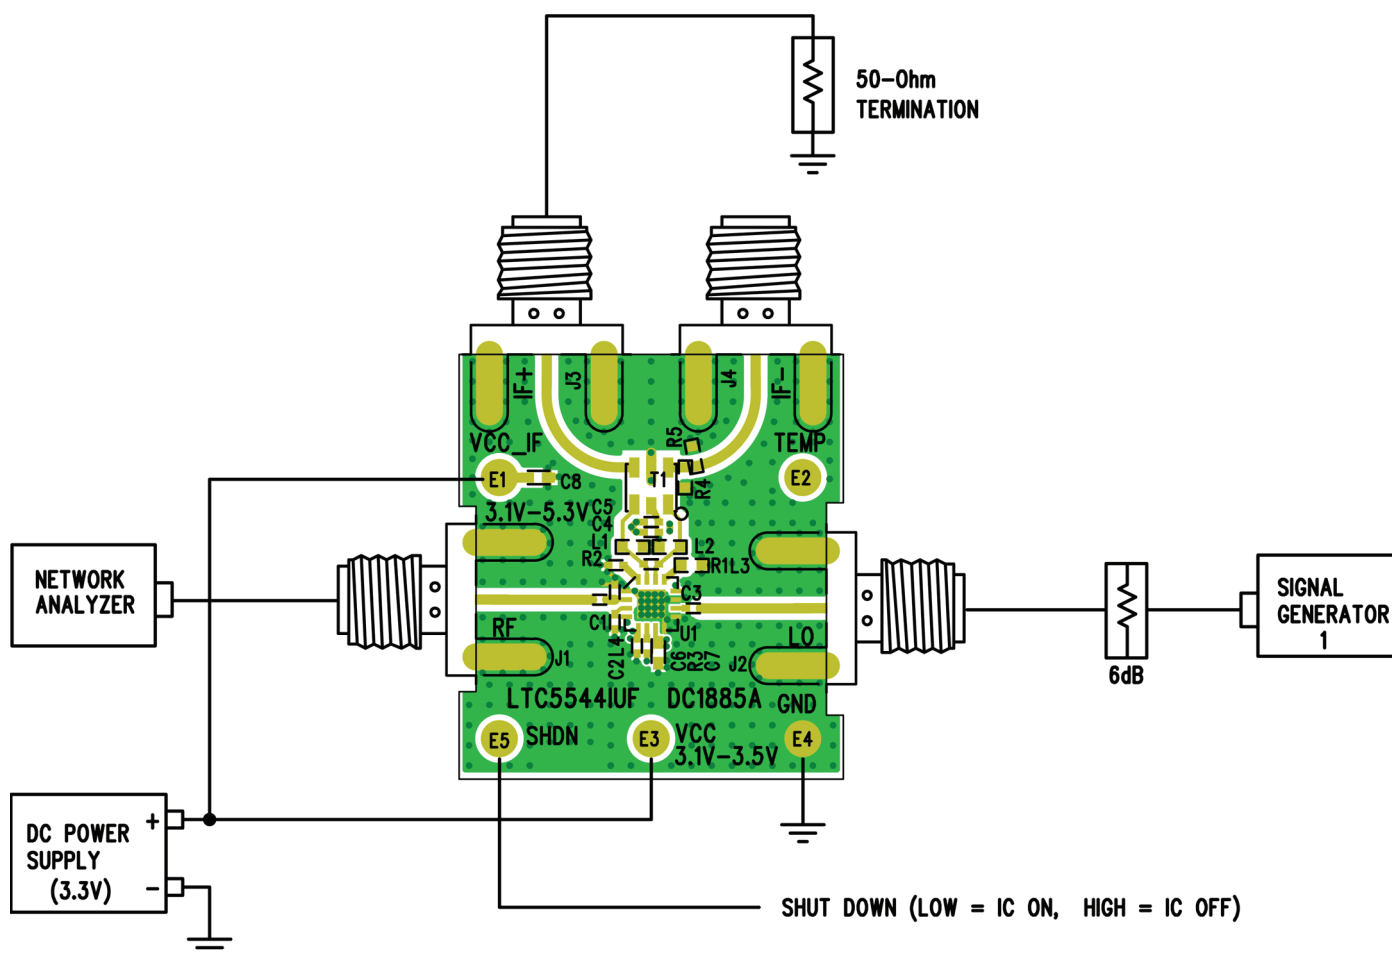
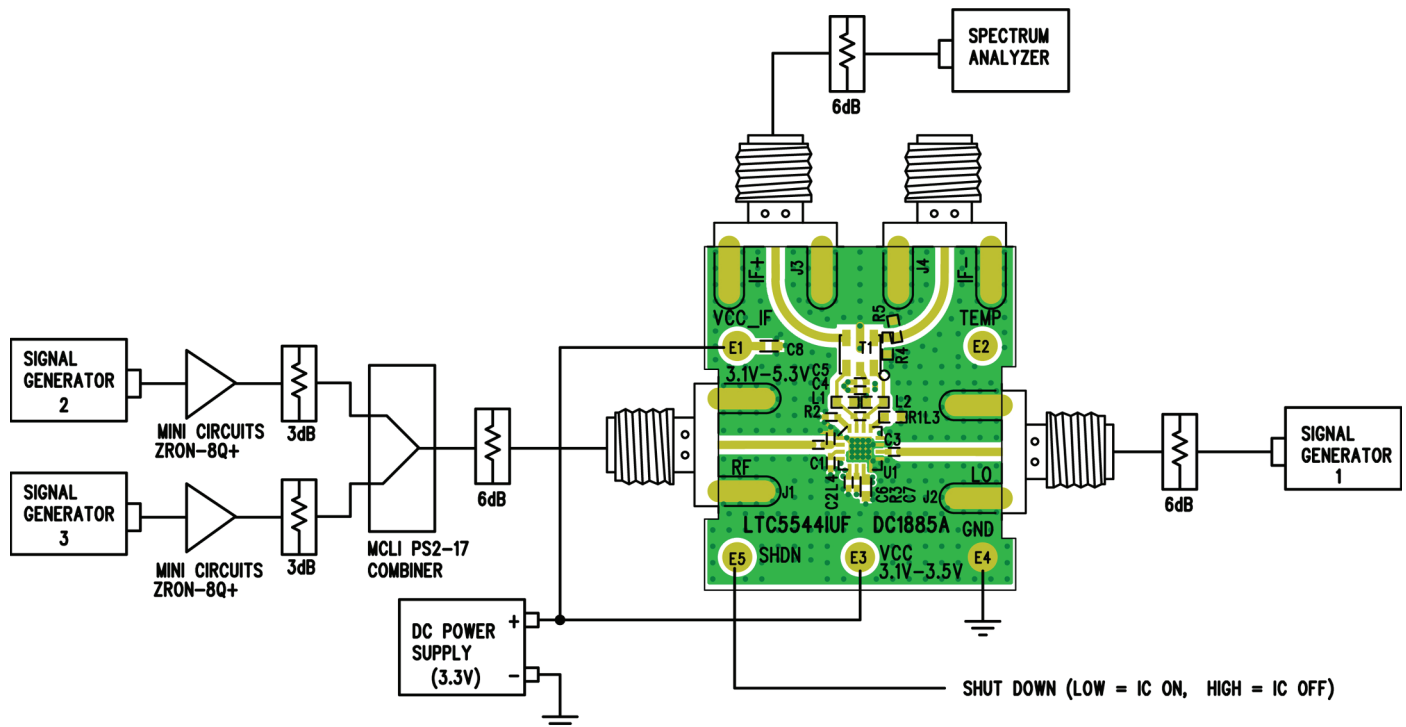

Figure 5. Proper Equipment Setup for Return Loss Measurements
Figure 6. Proper Equipment Setup for RF Performance Measurements
The LTC5544 is a high dynamic range downconverting mixer IC with very high input third order intercept. Accuracy of its performance measurement is highly dependent on equipment setup and measurement technique. The recommended measurement setups are presented in Figure 5, Figure 6 and Figure 7. The following precautions should be observed:
The LTC5544 consists of a high linearity passive double-balanced mixer core and IF buffer amplifier. Due to the bidirectional nature of all passive mixers,  $LO \pm IF$  mixing product is always present at the RF input, typically at a level of 12dB below the RF input signal. If the  $LO \pm IF$  "Pseudo-Image Spur" is not properly terminated, it may interfere with the source signals, and can degrade the measured linearity and noise figure significantly. To avoid interference from the  $LO \pm IF$  "Pseudo-Image Spur", terminate the RF input port with an isolator, diplexer, or attenuator. In the recommended measurement setups presented in Figure 6 and Figure 7, the 6dB attenuator pad at the demonstration circuit's RF input serves this purpose.
Demonstration circuit 1885A is easy to set up to evaluate the performance of the LTC5544. Refer to Figure 5, Figure 6 and Figure 7 for proper equipment connections and follow the procedure below:
3. Connect all test equipment as shown in Figure 5 with the signal generator and the DC power supply turned off.
1. Connect all test equipment as shown in Figure 6 with the signal generators and the DC power supply turned off.